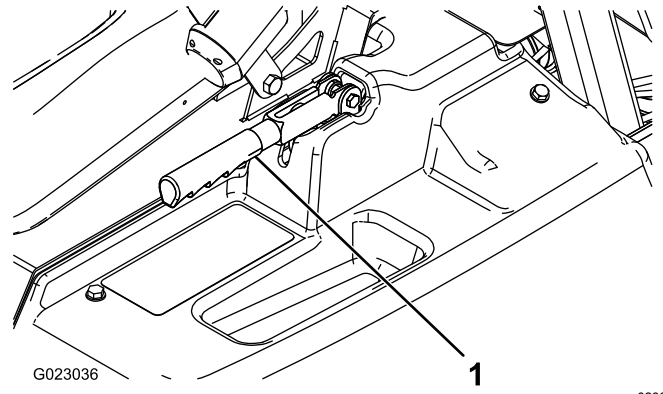

Figure 53
2. Loosen the set screw securing the knob to the parking-brake lever (**Figure 53**).